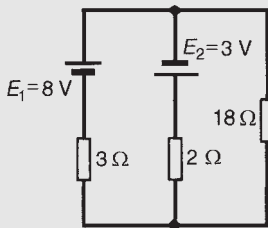

Figure 13.21
**Problem 6.** For the circuit shown in Fig. 13.21, find, using the superposition theorem, (a) the current flowing in and the p.d. across the  $18\ \Omega$  resistor, (b) the current in the  $8\ \text{V}$  battery and (c) the current in the  $3\ \text{V}$  battery.